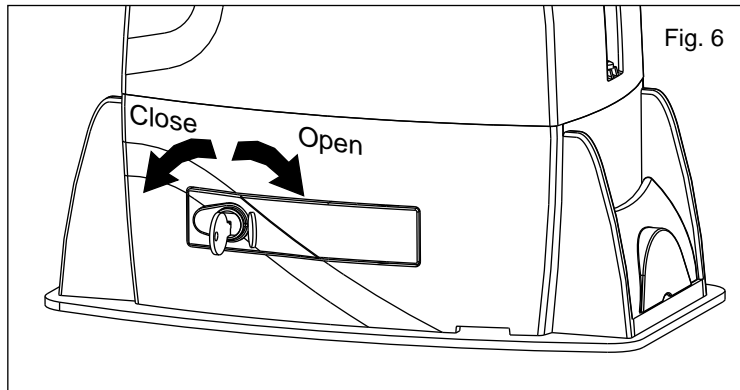

Fig. 6
- Open the lock cover, insert the key and rotate it 90° clockwise (Fig. 6).